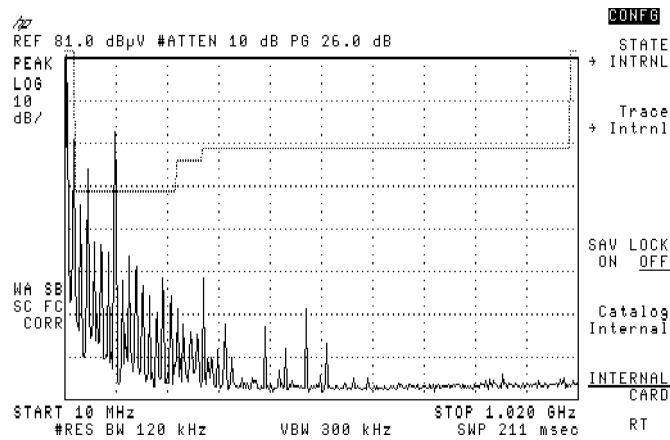

Figure 3-74. INTERNAL Underlined
2. Press **INTERNAL CRD**, INTERNAL will be underlined. See Figure 3-74.